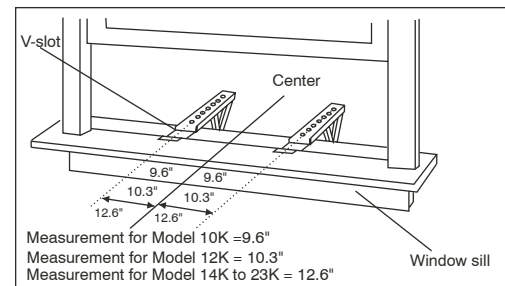

Fig. 11 – Bracket Mounting
B. Measure the inside window sill width and find the center as shown in (Fig. 11). Align the V-slot in each bracket on these marks and mount the brackets to the sill using 3/4" screws provided. Brackets should be perpendicular to the inside window sill. See (Fig. 11).